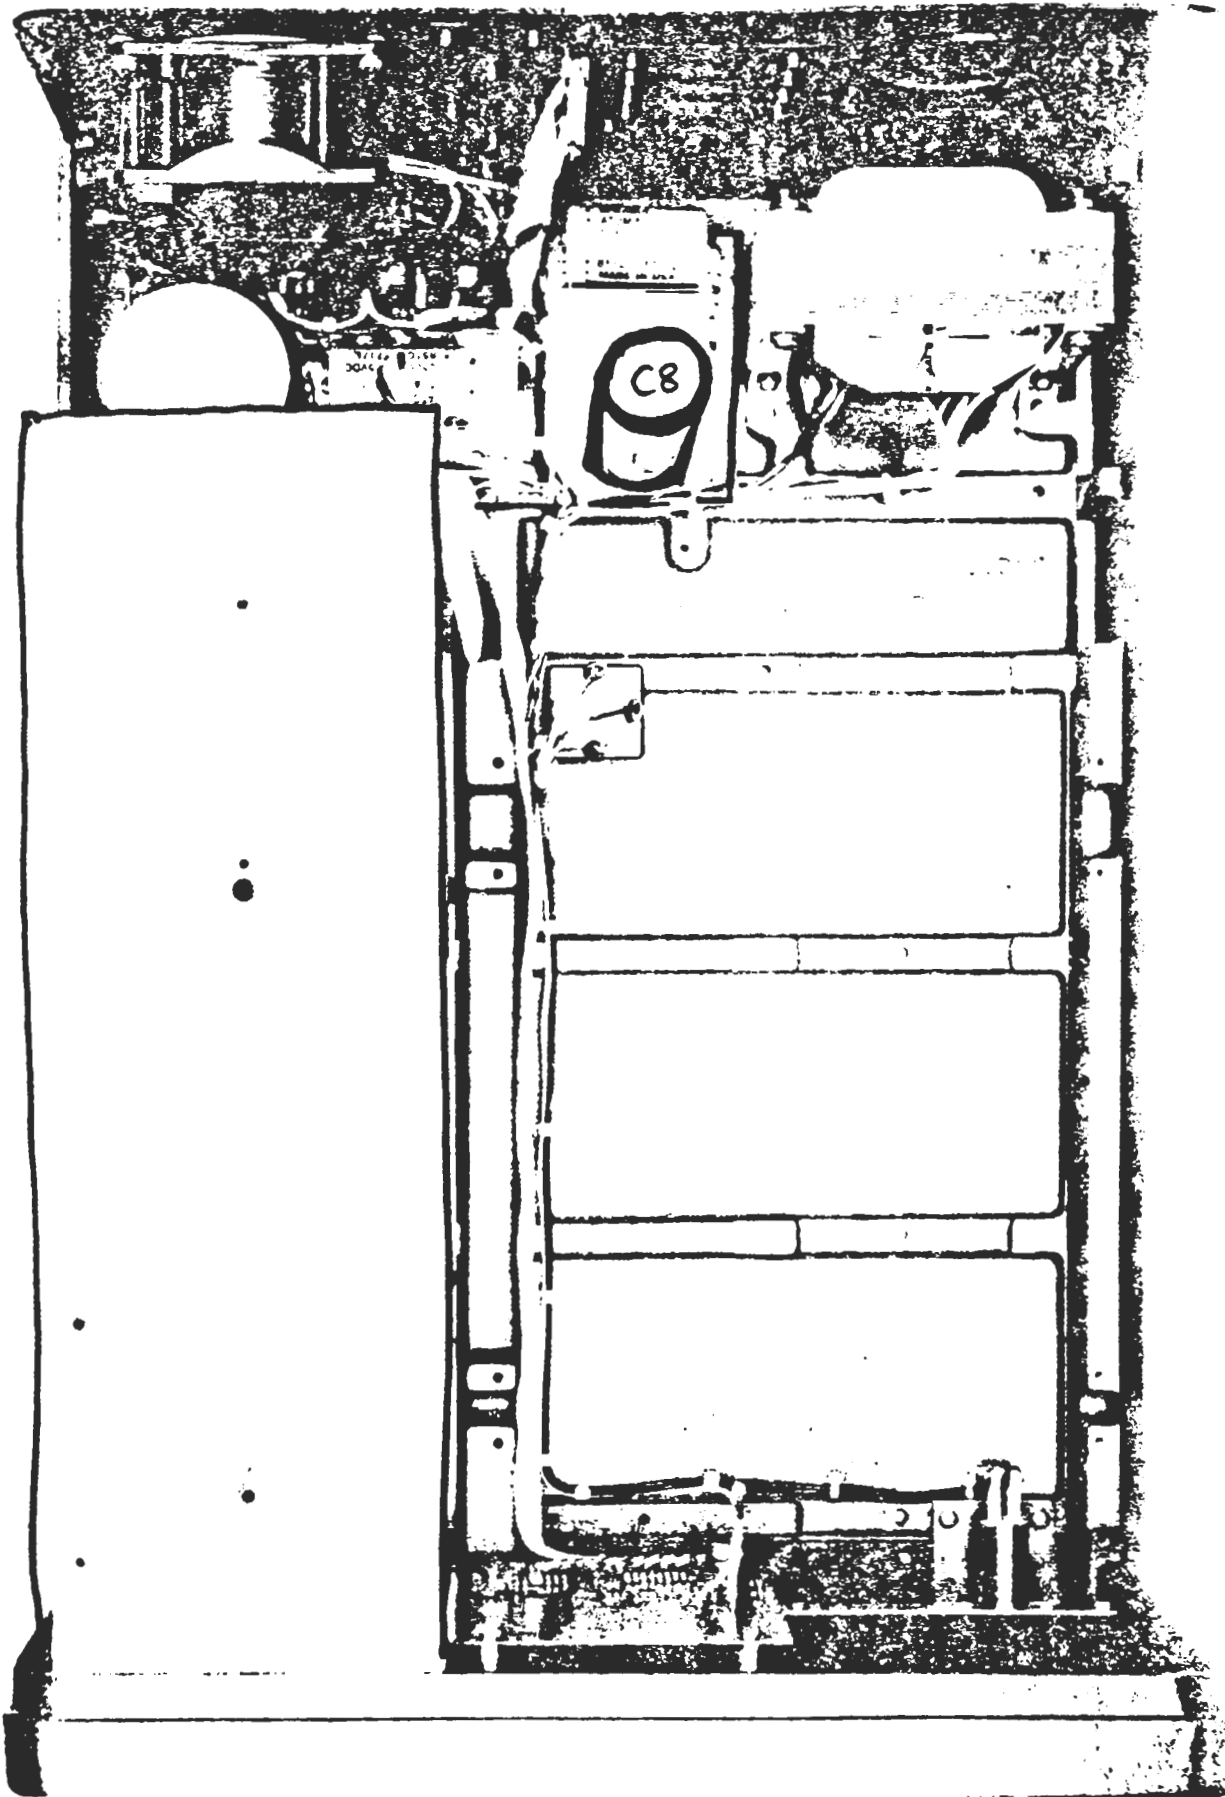

Fig. 3-19 Helios II Disk Drive Cabinet, Inside Top View
3. Locate the aluminum can marked C8 on Figure 3-19. That's the one that should be 50 VDC rated, but may only be 40 VDC in your Helios. Check the printing on the can to determine if you need to replace the capacitor. If not, use this opportunity to look for dirt inside the cabinet that should be vacuumed out and close the cabinet by reversing your steps.